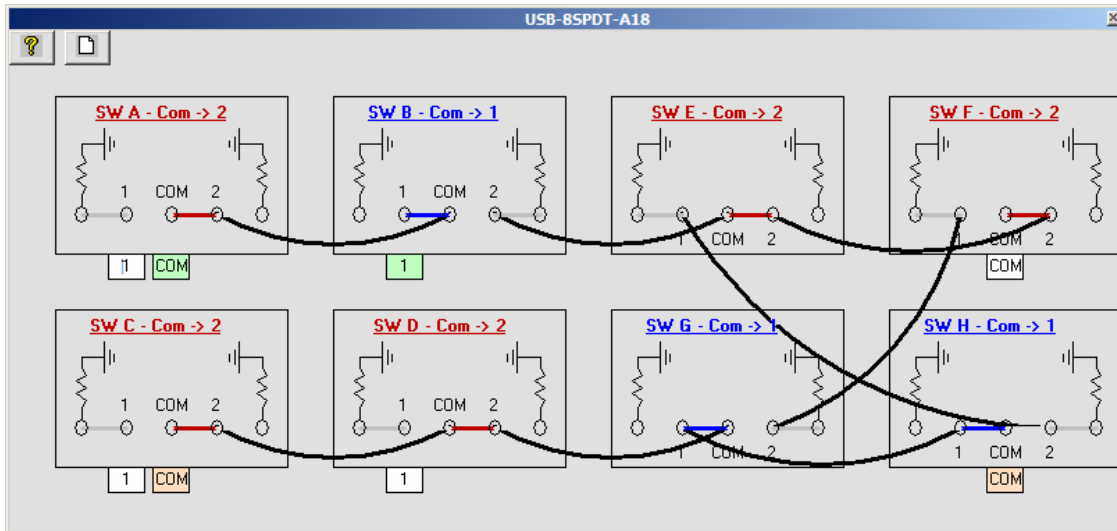

Figure 3.4.2a: User Switching graphical switch view window (8SPDT)
This window is opened beside the user sequence window by selecting the 'View Switches' option. This window shows the current state of all switches and allows you to illustrate multi switch setups by 'dragging' one of the connector circles to another switch's connector for example 2(A) to COM(B) (see Fig. 3.4.2a).